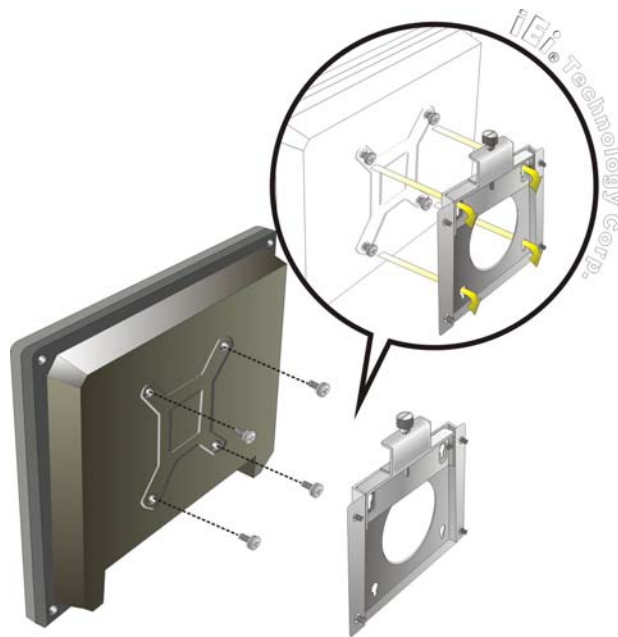

Figure 3-15: Chassis Support Screws
Step 6: Insert the four monitor mounting screws provided in the wall mount kit into the four screw holes on the rear panel of the flat bezel panel PC and tighten until the screw shank is secured against the rear panel (**Figure 3-15**).
Step 8: Carefully insert the screws through the holes and gently pull the monitor downwards until the monitor rests securely in the slotted holes (**Figure 3-15**). Ensure that all four of the mounting screws fit snugly into their respective slotted holes.